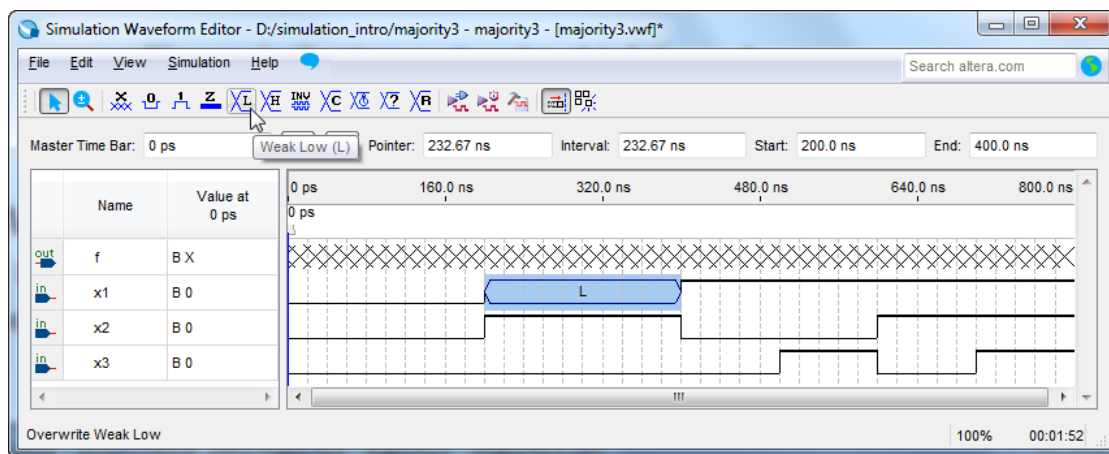

Figure 7. Changing the *x1* signal to be weak low from 200 to 400 ns.
These tools are used to set a signal to the values Weak Low (L) or Weak High (H), which represents a circuit in which a bidirectional signal is pulled down or up by using a resistor. Examples are shown in Figures 7 and 8.